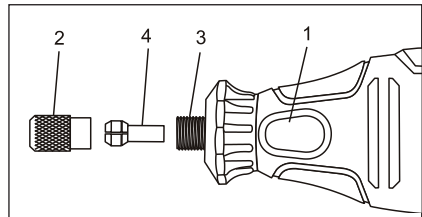

Fig. 3
2. Depress the spindle lock button (1) and slowly turn the collet nut (2) until the spindle lock button locks the spindle (3) (Fig. 3).
4. Remove the collet (4) by pulling it out of the spindle.